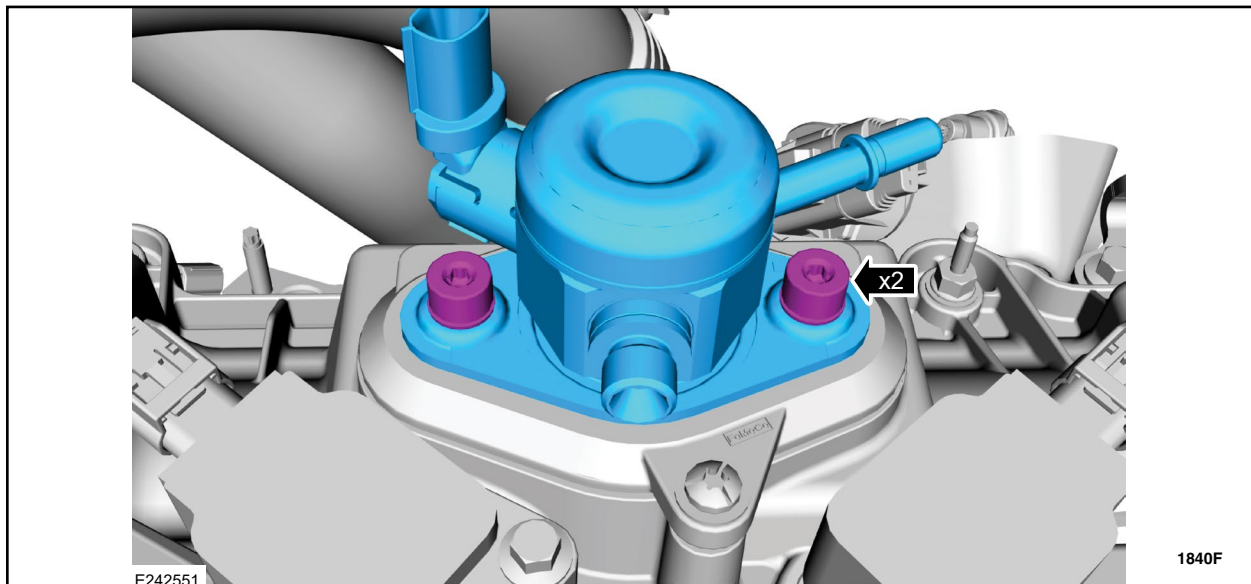

FIGURE 6
9. Remove and discard the high-pressure fuel pump bolts. Remove the high-pressure fuel pump. See Figure 6.